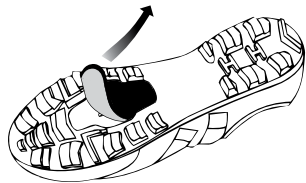

Figure 1
- If there is a cover over the cleat area of the sole, remove the cover from the shoe using a pair of pliers (fig. 1).